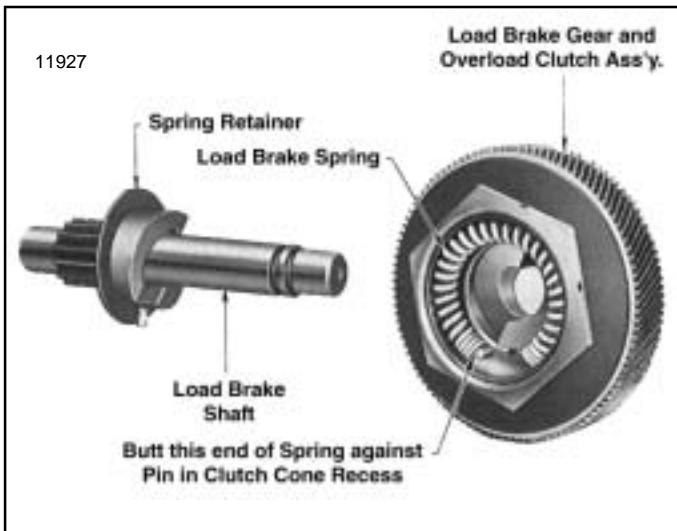

Figure 7-24. Load Brake Gear and Overload Clutch Assembly Removed from Load Brake Shaft Showing Brake Spring Installed in Clutch Cone
(3) Remove load brake gear and overload clutch assembly from output pinion shaft. Pull the spring from its recess in clutch cone (fig. 7-24) but do not further disassemble gear and clutch assembly. See "NOTE" below.
NOTE: Disassembly of the load brake gear and overload clutch assembly (fig. 7-24) is not recommended. Clutch pressure is preset by the factory at assembly to provide the correct torque to allow the clutch to refuse loads within a specified range (110% of rated load to 180% rated load). It is suggested whenever there is a need to repair or readjust the gear and clutch assembly that it be sent to an authorized **Budgit** Hoist Repair Station where adequate tools, fixtures and appropriate test equipment is available.
(1) Before assembly, all parts should be cleaned and inspected to determine their serviceability. Replace parts that are excessively worn or damaged.
(2) Reassemble load brake parts following a reverse procedure of the disassembly steps listed above, observing the assembly steps (3) thru (6) below.
(3) Before installing spring in its recess in center of clutch cone (fig. 7-24) apply a good grade of ball bearing grease to inside of recess. Spring must be positioned exactly as illustrated, abutted against pin.